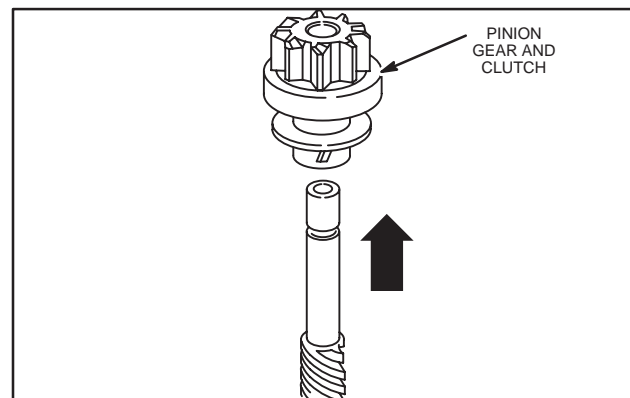

Fig. 55 – Removing Pinion And Clutch
9. Remove pinion gear and clutch assembly, Fig. 55.